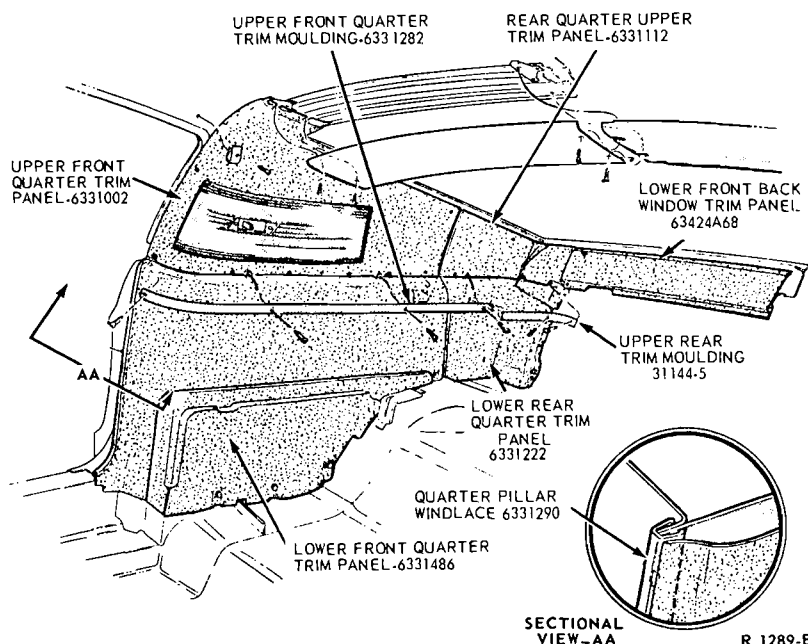

FIG. 10—Interior Moulding and Quarter Trim Panel Installation—Mustang Model 63
4. Remove the four retaining screws from the upper front quarter trim moulding and remove the moulding (Fig. 10).
4. Remove 4 screws and remove the quarter trim upper front mouldings and caps (Fig. 10).
20. Install the right and left quarter trim upper front panels (Fig. 10).